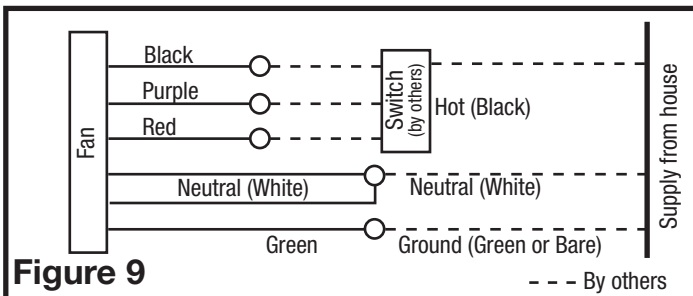

Figure 9
- 2b. From where you have chosen to access the fan's junction box, connect the White wire from the house to the two White wires from the fan. Connect one Hot (Black) wire from the wall switch to the Black wire from the fan (this is the fan control). Connect second Hot (Purple) wire from the wall switch to the Purple wire from the fan (this is the night light control). Connect the third Hot (Red) wire from the wall switch to the Red wire from the fan (this is the main light control). Connect the ground wire (green or bare copper) from the house to the Green wire from the fan (Figure 9). Use approved methods for all connections.